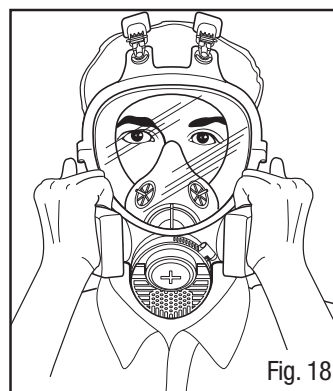

Fig. 18
1. Using both hands press or squeeze filter covers toward facepiece and inhale gently. If you feel facepiece collapse slightly and pull closer to your face with no leaks between the face and facepiece a proper seal has been obtained (Fig. 18).